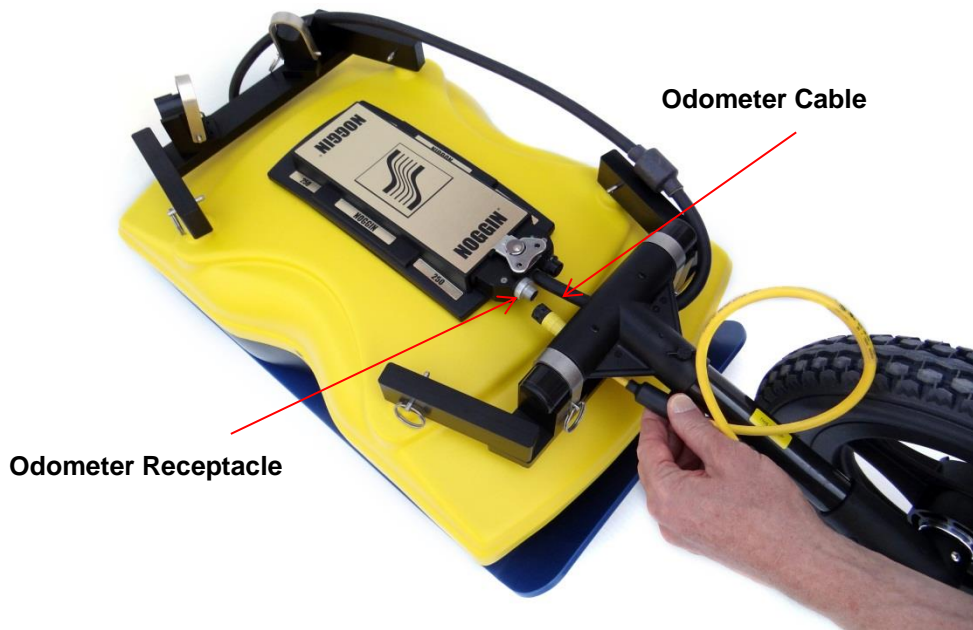

Figure 2-46: Connecting yellow odometer cable to odometer receptacle on main cable
11. Connect the yellow odometer cable to the Noggin connector receptacle (Figure 2-46).